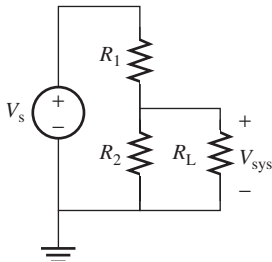

FIGURE P3.26 Circuit for Problem 3.26.
3.26 (H) Assume that you need to power a system from a V_s power supply, but the system requires a voltage of V_{sys} . Use voltage division as shown in Figure P3.26, express R_1 as a function of R_2 , V_s , V_{sys} , and R_L . ($V_{sys} < V_s$)